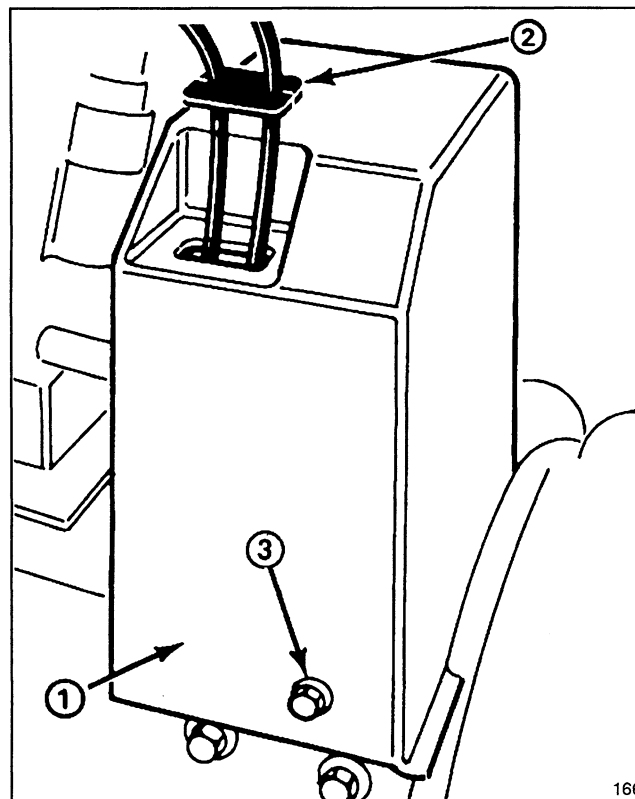

Figure 3
9. Mount upper belt cover to engine frame with (3) 1/4–20x1/2" lg. flange head capscrews (Fig. 3).
10. Slide cable cover onto cables and into hole in belt cover (Fig. 3).